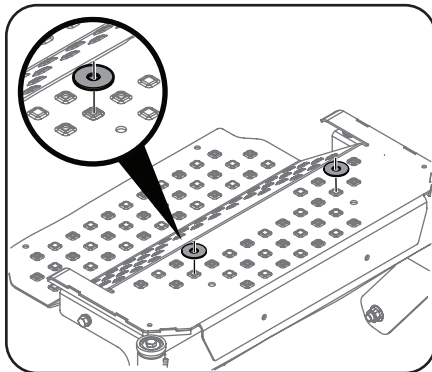

Figure 4-17
1. Place 2 washers (936-0208) over top of the mounting holes. See Figure 4-17.